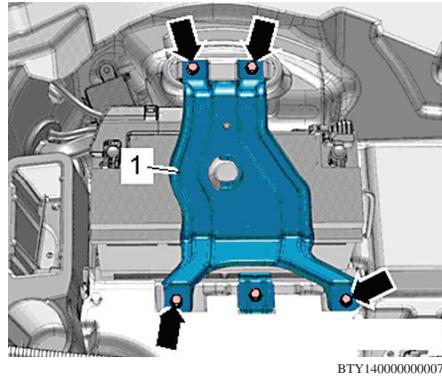

Fig. 1 Battery bracket removal
7. Remove screws (arrows) and bracket (1), **Fig. 1**.
7. Install bracket (1) and **torque** screws (arrows) to 13 ft. lbs., **Fig. 1**.